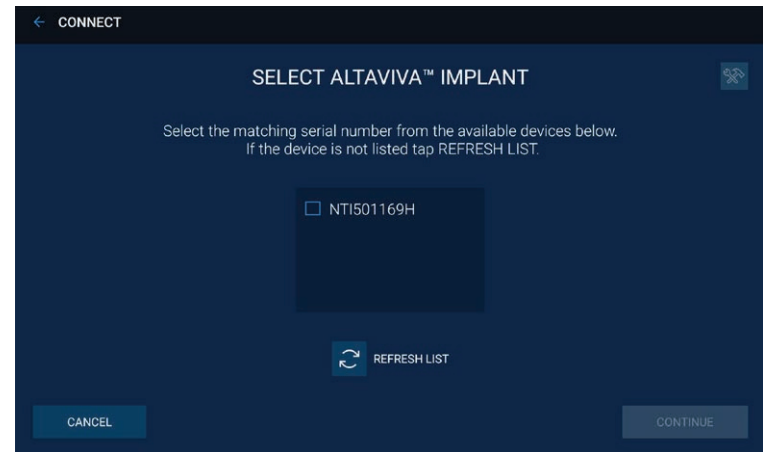

Figure 9. Select Altaviva Implant screen (serial number shown is for example only)
5. Select the appropriate INS according to the serial number (found on the patient ID card or patient records) and tap **CONTINUE** (Figure 9). If the neurostimulator serial number is not listed, tap **REFRESH LIST** (🔄).